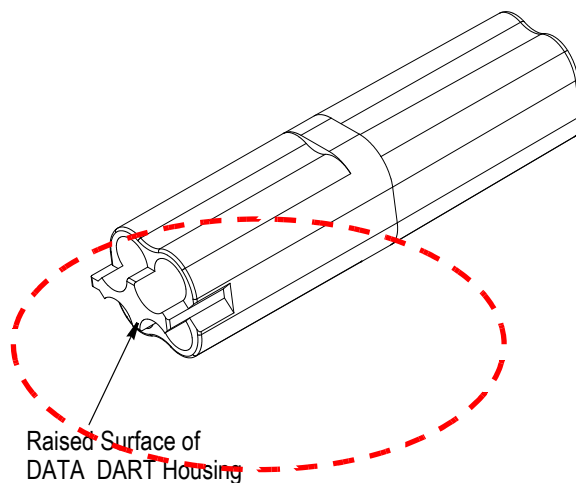
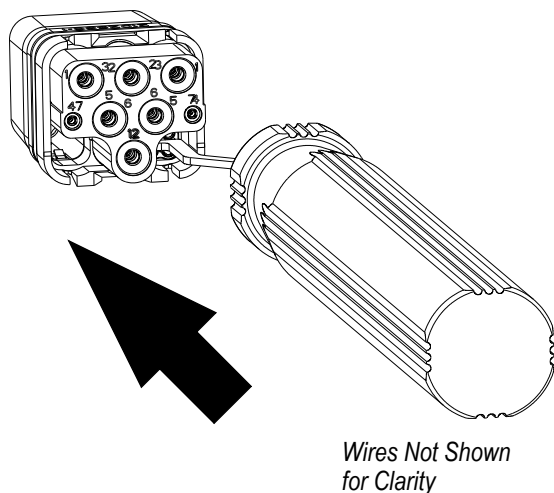

Figure 3
Figure 4
3. Slide the tip of the tool along the raised surface of the DATA DART (Figure 3) and push the DATA DART inside the power module housing until it bottoms and latches in place. Refer to Figure 4.